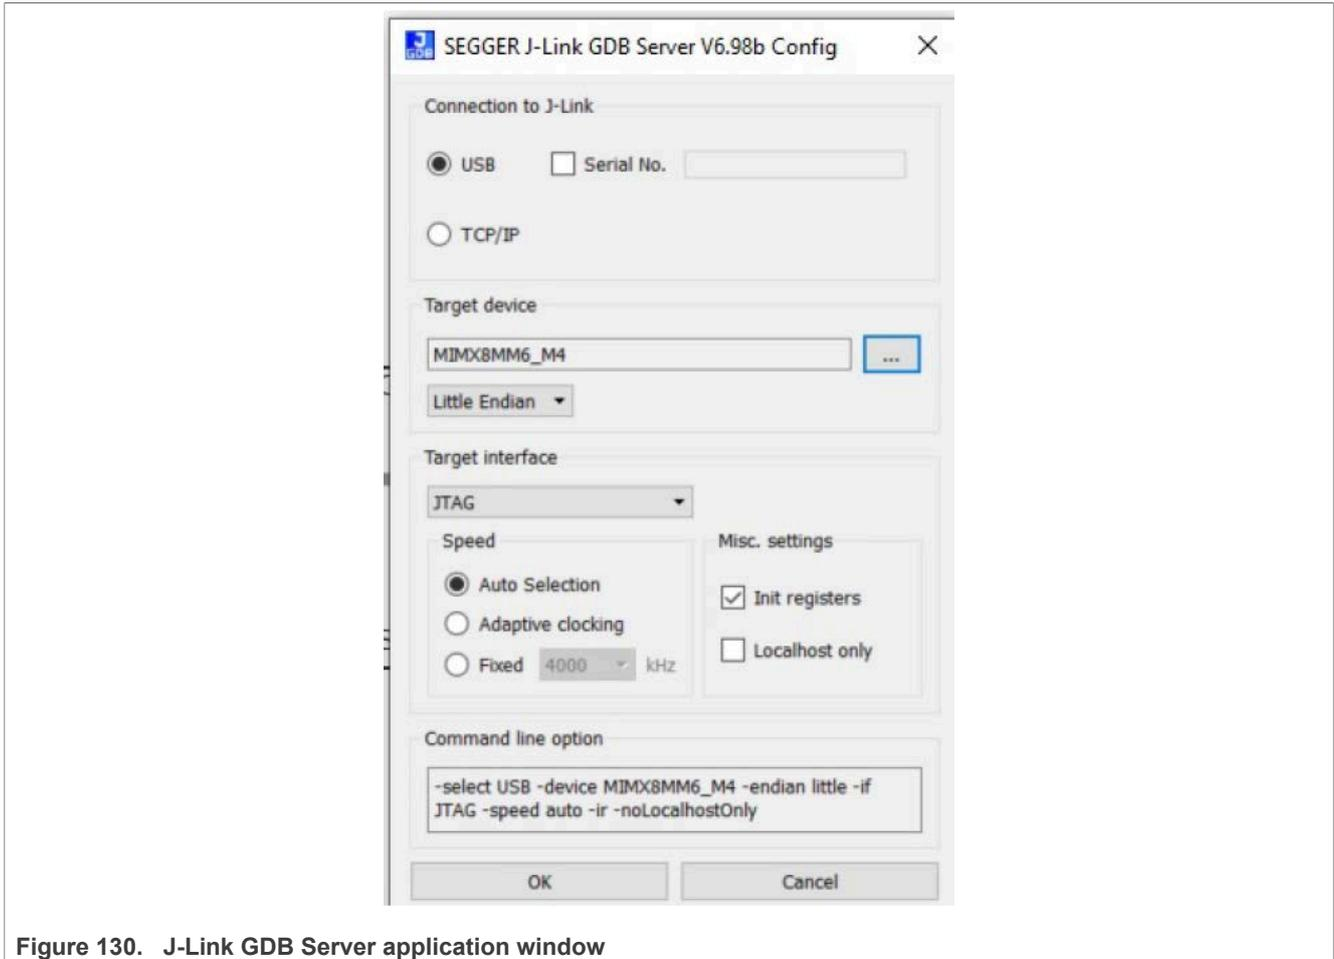

Figure 130. J-Link GDB Server application window
- After server is launched, modify the settings as shown in Figure 130. The target device selected for this demo is **MIMX8MM6_M4**.